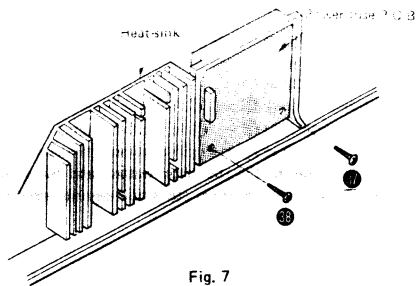

Fig. 7
2. Remove the 2 setscrews (Fig. 7 : 47, 48) of the printed circuit board.